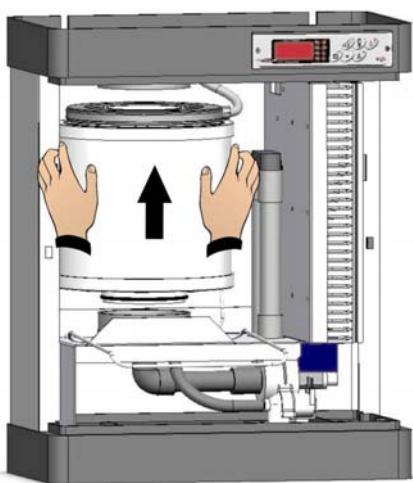
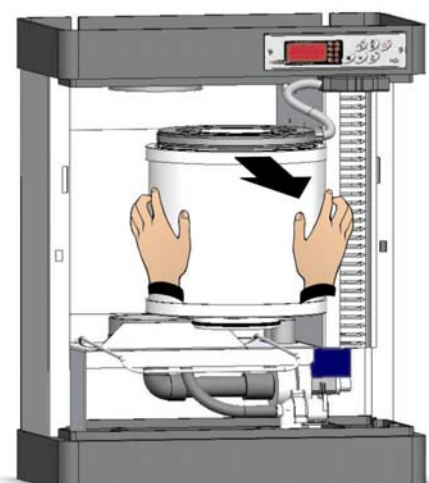

Fig. 33
Fig. 34
- Remove the cylinder from the lower flange by raising it (fig. 33) and then remove it from the humidifier (fig. 34).